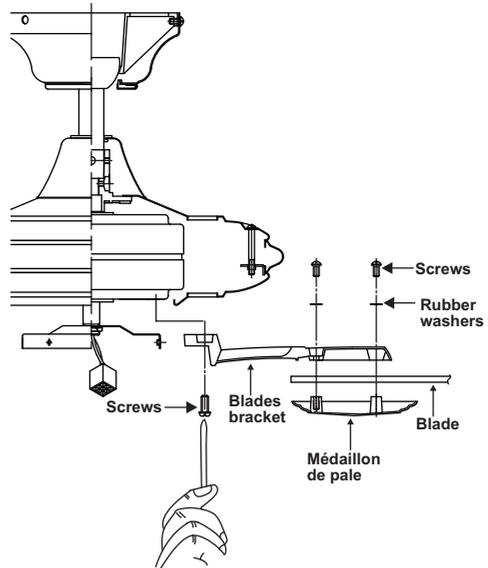

Figure 17
Step 1 Attach the blade to the blade bracket using the screws and rubber washers as shown in Figure 17. Start screw into bracket. Repeat for the two remaining screws.
Step 3 Fasten blade assembly to motor using the screws supplied. (Fig. 17)